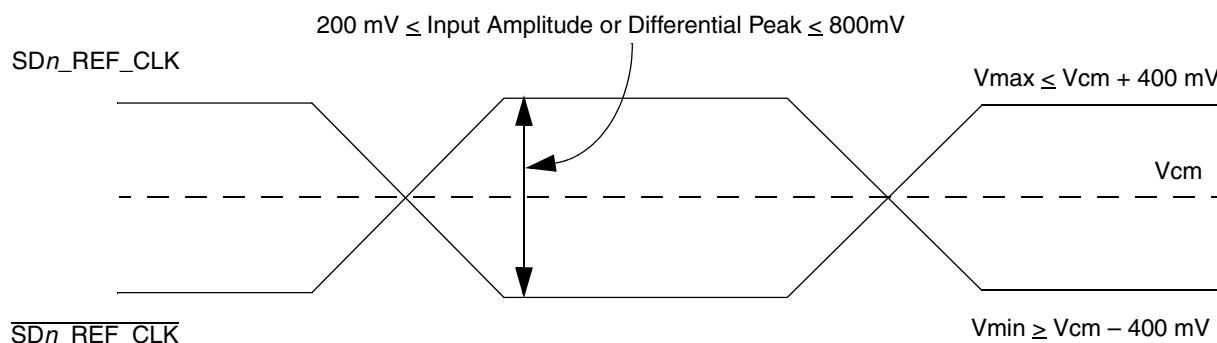

Figure 39. Differential Reference clock input DC requirements (external AC-coupled)
- For **external AC-coupled** connection, there is no common mode voltage requirement for the clock driver. Since the external AC-coupling capacitor blocks the DC level, the clock driver and the SerDes reference clock receiver operate in different common mode voltages. The SerDes reference clock receiver in this connection scheme has its common mode voltage set to SGND_SRDS. Each signal wire of the differential inputs is allowed to swing below and above the common mode voltage (SGND_SRDS). Figure 39 shows the SerDes reference clock input requirement for AC-coupled connection scheme.